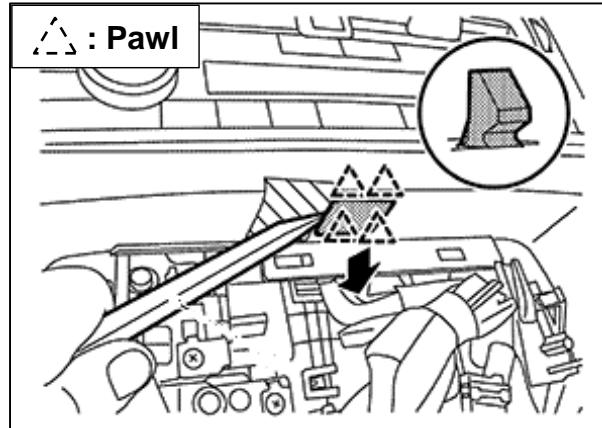

Figure 69
48. Using a remover tool, disengage the four (4) mood lamp fixing pawls, as indicated by the arrow in Figure 69.